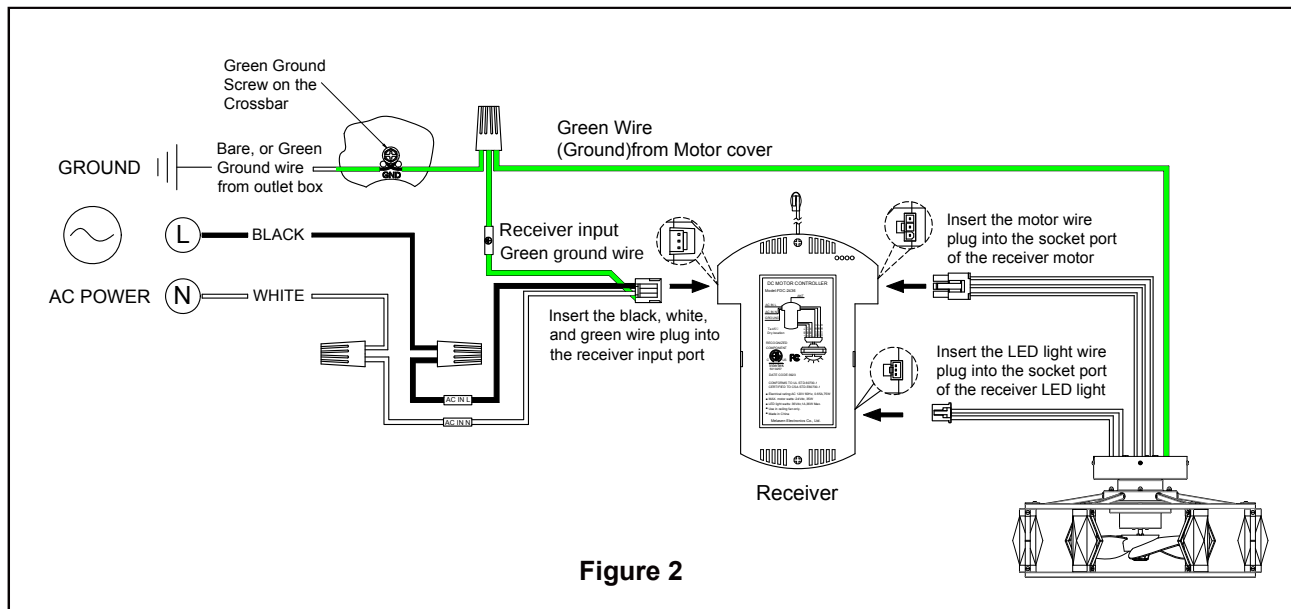
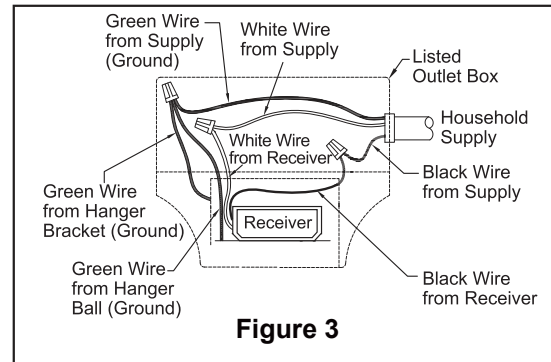

Figure 2
Figure 3
Your new ceiling fan will require a grounded electrical supply line of 120 volts AC, 60 Hz, 15 Amp Circuit. Electrical code requires use of a fan-rated outlet box to support the extra weight and motion associated with a ceiling fan. A fan-rated box will be labeled as such and typically supports up to a 70lbs ceiling fan. Fan-Rated Outlet Boxes vary in ratings and design. Ensure the ratings of your ceiling fan outlet box meet the requirements for the ceiling fan being installed. Figure 1, Figure 2 and Figure 3 depicts different structural configurations that may be used for mounting the outlet box.
Deep-profile use (Figure 2)
Brace Use (Figure 3):
The fan must be hung with at least 7 ft. clearance from floor to ceiling fan. (Figure 2)
- ☐ Securely attach the hanger bracket to the outlet box using the outlet box screws and washers supplied with the outlet box. (Figure 3)
(Figure 2)
- After connections have been made, the wires should be spread apart with the grounded conductor and the equipment-grounding conductor on one side of the outlet box and the ungrounded conductor on the other side of outlet box, then turn leads upward and carefully push leads into the outlet box, with the white and green leads to one side of the box and the black leads to the other side. (Figure 3)
- ❑ Restore electrical power to the outlet box by turning the electricity on at the main fuse box. (Figure 2)
- ❑ To make fan operational, Install two 1.5V AAA batteries. battery not included (If not used for long periods of time, remove battery to prevent damage to transmitter). Store the remote away from excessive heat or humidity. (Figure 3)